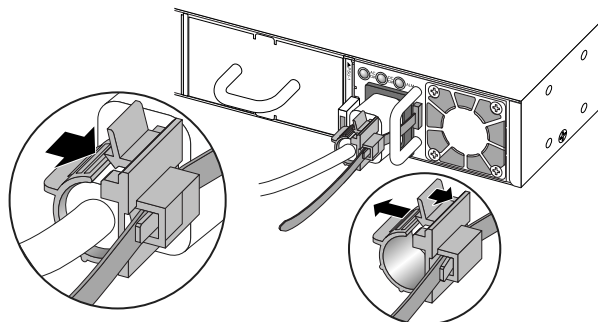

Figure 202: Attaching the Power Cord Retainer
- c. Open the clip and slip it over the barrel of the connector (see Figure 202).